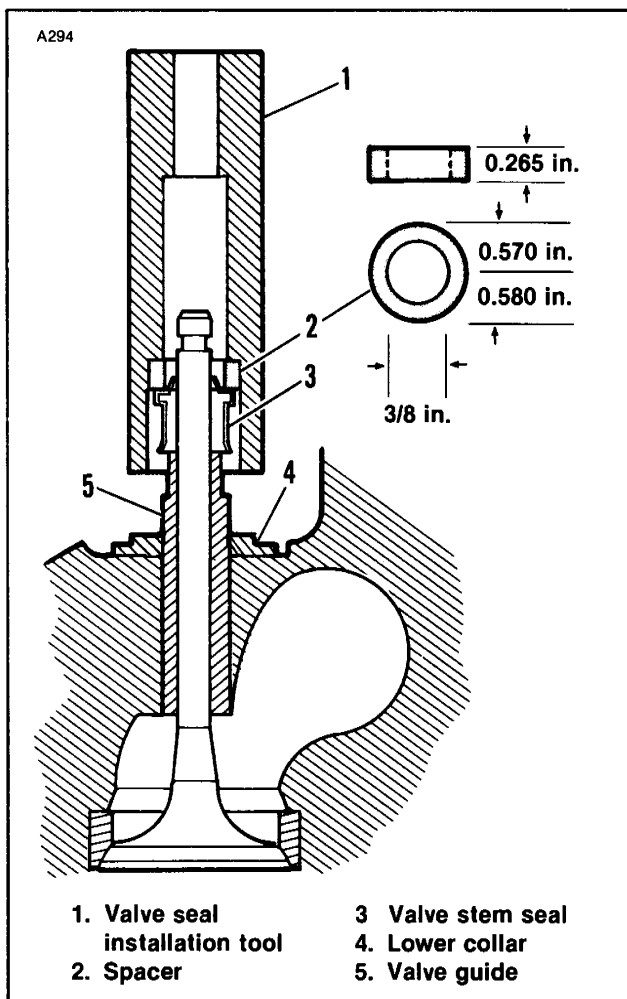

Figure 3-16. Valve Seal Installation with Spacer
6. See Figure 3-16. Apply a small amount of RC 620 Loctite (green) retaining compound to outside diameter of guide near the top of guide. Place a protective sleeve over the valve stem keeper grooves. Coat the sleeve with oil and place a new seal over the valve stem.
7. See Figure 3-16. Install lower collar (4).